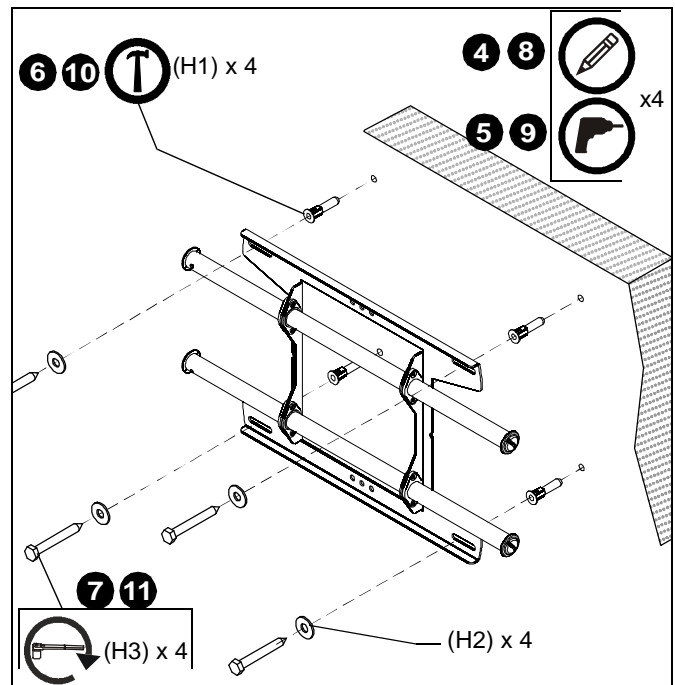

Figure 4
4. Using a level, mark the wall through both upper mounting slots. (See Figure 4)
8. Mark the attachment points for the lower mounting slots. (See Figure 4)
9. Drill one pilot hole at each marking for lower mounting holes. (See Figure 4)
washers (H2) to attach the mount to the wall through the lower mounting holes. (See Figure 4)
- Align the center of the bracket with center of screen. (See Figure 4)